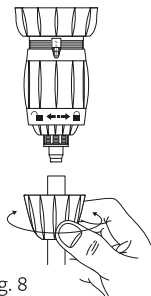

Fig. 8
- Unscrew the nut (Fig. 8) at the bottom of the injection as-sembly and put it onto the hose;